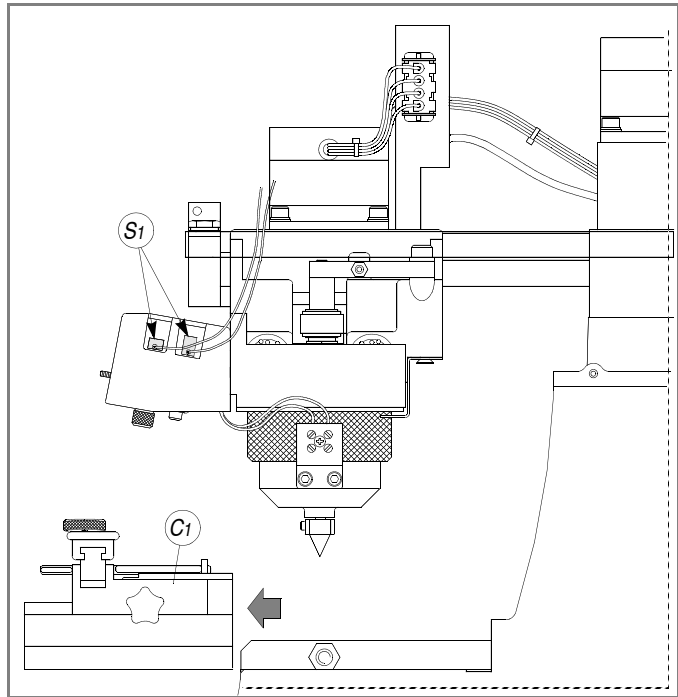

Fig. 36
- 3) remove the clamp (C1) (fig. 36).